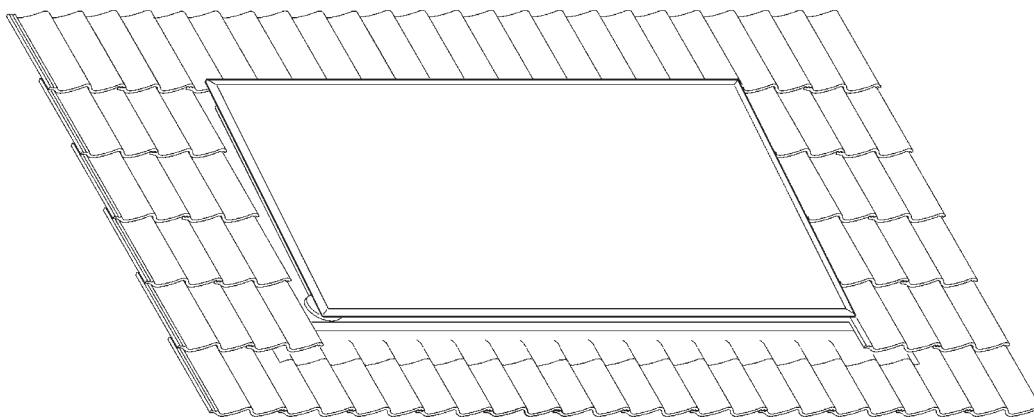

**Fig. 17 - Flashing sheet and finishing strip**
- Roll out and position the lefthand flashing sheet, the pre-formed ridges at the bottom should rest against the batten of the lower apron seal as shown in detail 'B', Fig. 17. Before securing the sheet, mark the position of the pipe inlet hole required and carefully cut the underlay or board for the pipes and sensor cable (only use the sensor cable from the collector in the most shaded position). Secure the lefthand flashing sheet to the battens using nine of the 70 mm screws supplied (kit item 12) into the roof battens/rafters as shown in Fig. 17.
Secure the righthand sheet to the battens/rafters using nine of the 70 mm screws supplied (kit item 12) into the roof battens as shown in Fig. 17).
- Position the lower finishing strips (kit items 7 and 8) along the bottom edge of the flashing sheet and seal to the lower apron batten using the twenty two of the 30 mm screws supplied (kit item 13) as shown in detail 'B', in Fig. 17.